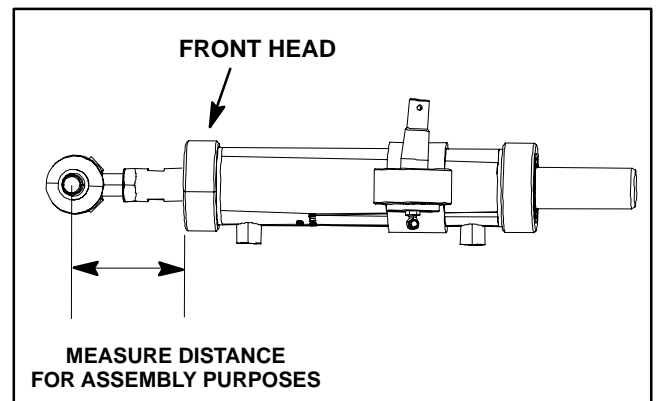

Figure 102
6. Remove two (2) jam nuts (item 16) that secure steering cylinder to axle. Remove cotter pin (item 20) and slotted hex nut (item 29) that secure steering cylinder to RH drag link.
8. If necessary, remove ball joints from steering cylinder barrel and shaft. If ball joint is to be removed from cylinder shaft, fully retract cylinder shaft and measure distance from cylinder front head to center of ball joint to ease installation of ball joint into cylinder shaft (Fig. 102).